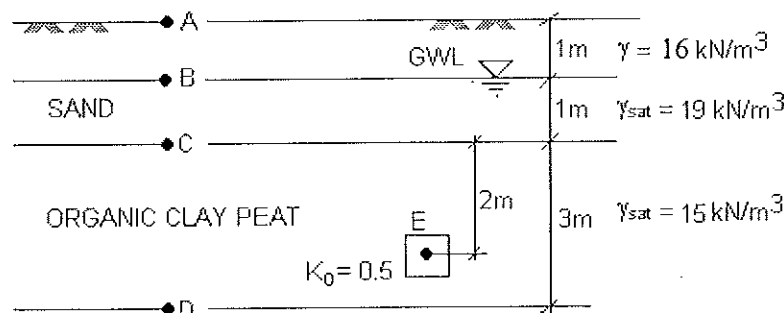

Figure B2
2. Figure B2 shows the sub-surface profile of a construction site.